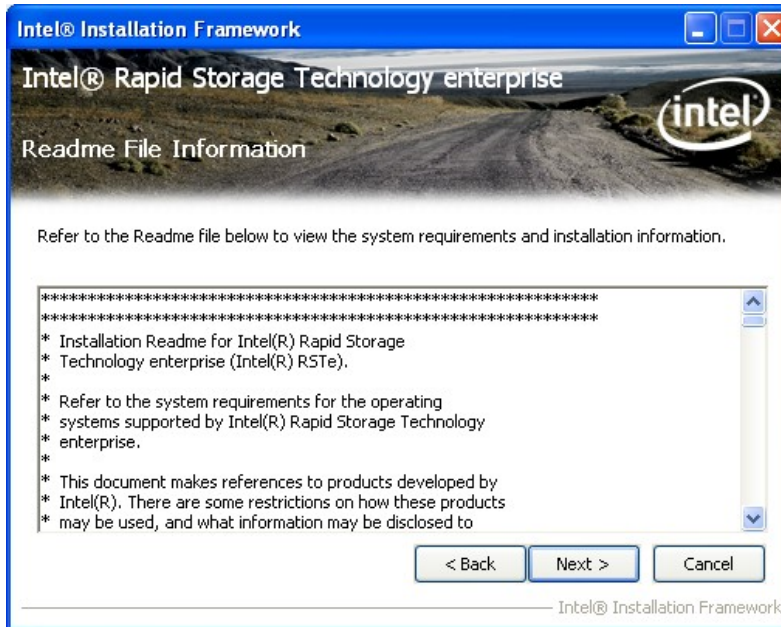

Figure 6-26: SATA RAID Driver Read Me File
Step 11: The **Read Me** file in **Figure 6-26** appears.